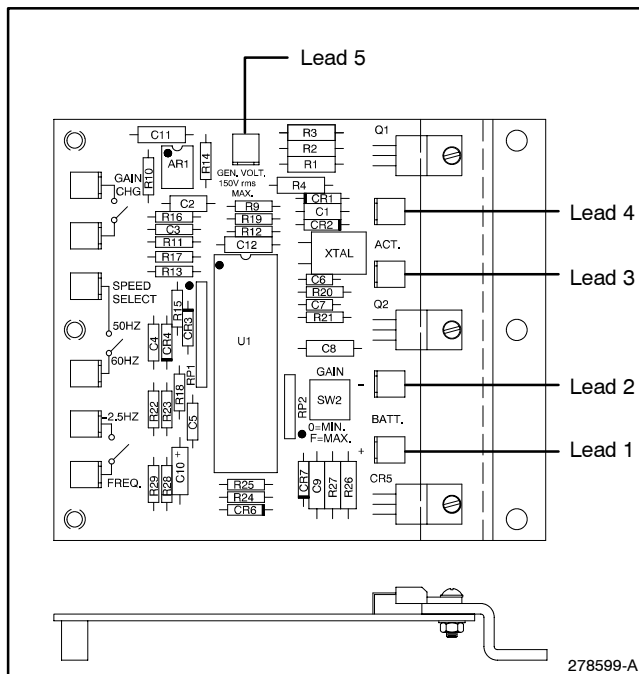

Figure 1 Governor Control Board 254902
Compare the existing governor with Figure 1 to verify that the generator set is equipped with the 254902 governor board before proceeding.
5. Before disconnecting the old control board, label the leads 1-5 as shown in Figure 1 so that they can be easily reconnected to the new governor controller. Leads 1 and 2 are the battery connection, leads 3 and 4 are the actuator connection, and lead 5 is the voltage connection.